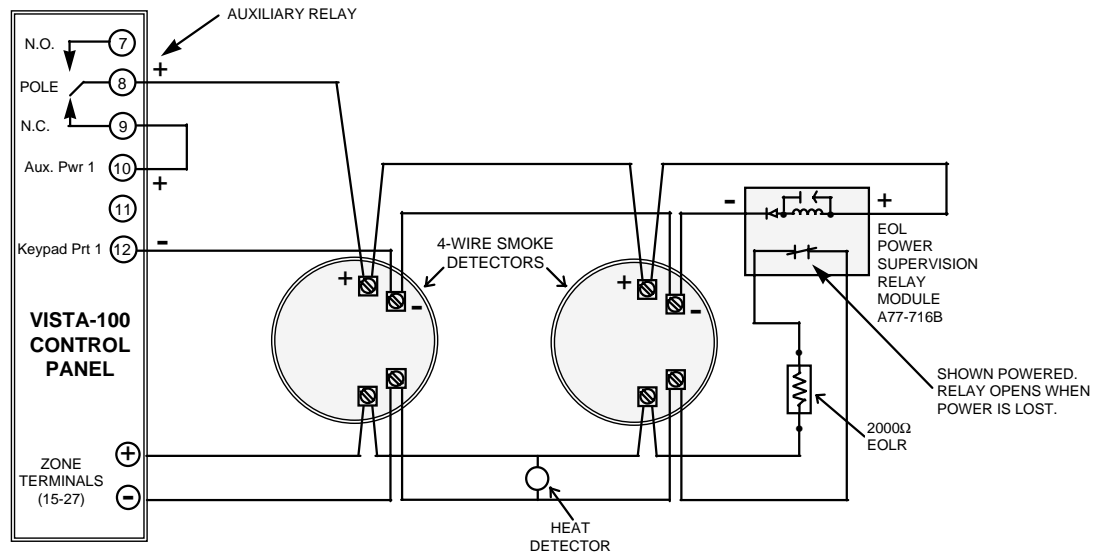

Figure 6-2. 4-Wire Smoke Detector Connections (Zones 1-8)
1. Connect 12-volt power for the detectors as follows: Wire the [+] side of Auxiliary Power (Terminal 10) to the N.C. contact of the Aux. Relay (Terminal 9). Wire the pole of the Aux. Relay (Terminal 8) to the [+] Power side of the smoke detector. Connect the [-] side of the smoke detector to [-] Aux. Power (Terminal 12). Observe proper polarity when connecting detectors (see *Figure 6-2*).
Power to 4-wire smoke detectors must be supervised with an EOL device (use a System Sensor A77-716B EOL relay module, connected as shown in *Figure 6.2*).